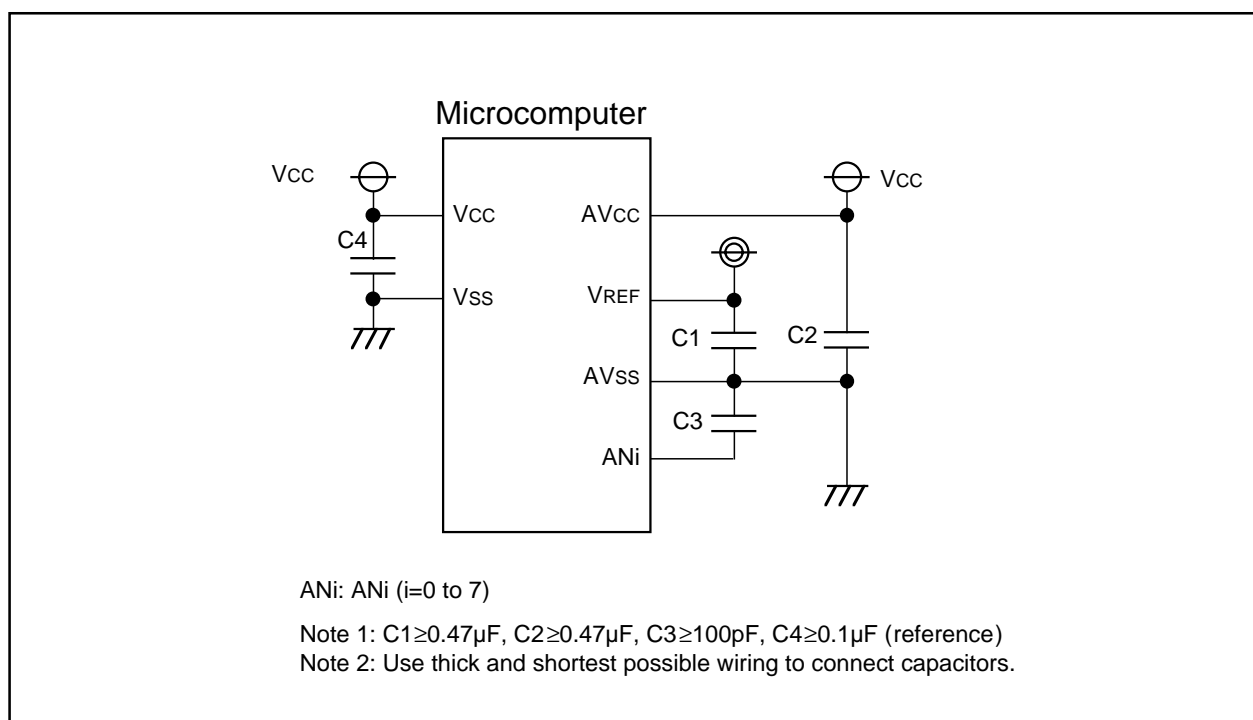

Figure 1.8.1. Use of capacitors to reduce noise
3. To prevent noise-induced device malfunction or latchup, as well as to reduce conversion errors, insert capacitors between the AVCC, VREF, and analog input pins (ANi(i=0 to 7)) each and the AVSS pin. Similarly, insert a capacitor between the VCC pin and the VSS pin. Figure 1.8.1 is an example connection of each pin.